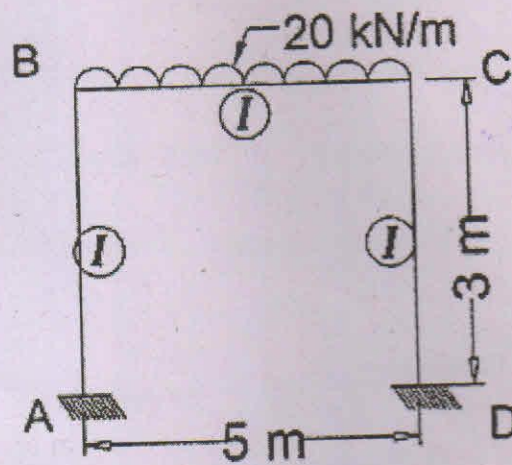

Figure 1
2. (a) Derive an expression for maximum deflection of a fixed beam carrying a point load at mid point. (9)
- (b) A beam AB of span 6 m fixed at both ends carries uniformly distributed load of 20 kN/m over the whole span. The right end supports B sinks by 10 mm, Determine the fixed end moments and the reactions at the supports. Take $E = 210 \text{ kN/mm}^2$ and $I = 6 \times 10^7 \text{ mm}^4$. (6)
3. (a) Prove the Clapeyron's theorem of three moments of the continuous beam. (9)
- (b) A beam ABC of length 10 m consists of spans AB and BC each 5 m long and simply supported at A, B, C. The beam carries a uniformly load of 20 kN/m on the whole length. Find the reactions at the supports and the support moments. (6)
4. Analyse the portal frame shown in figure 1 using moment distribution method. Draw the bending moment diagram (BMD). (15)